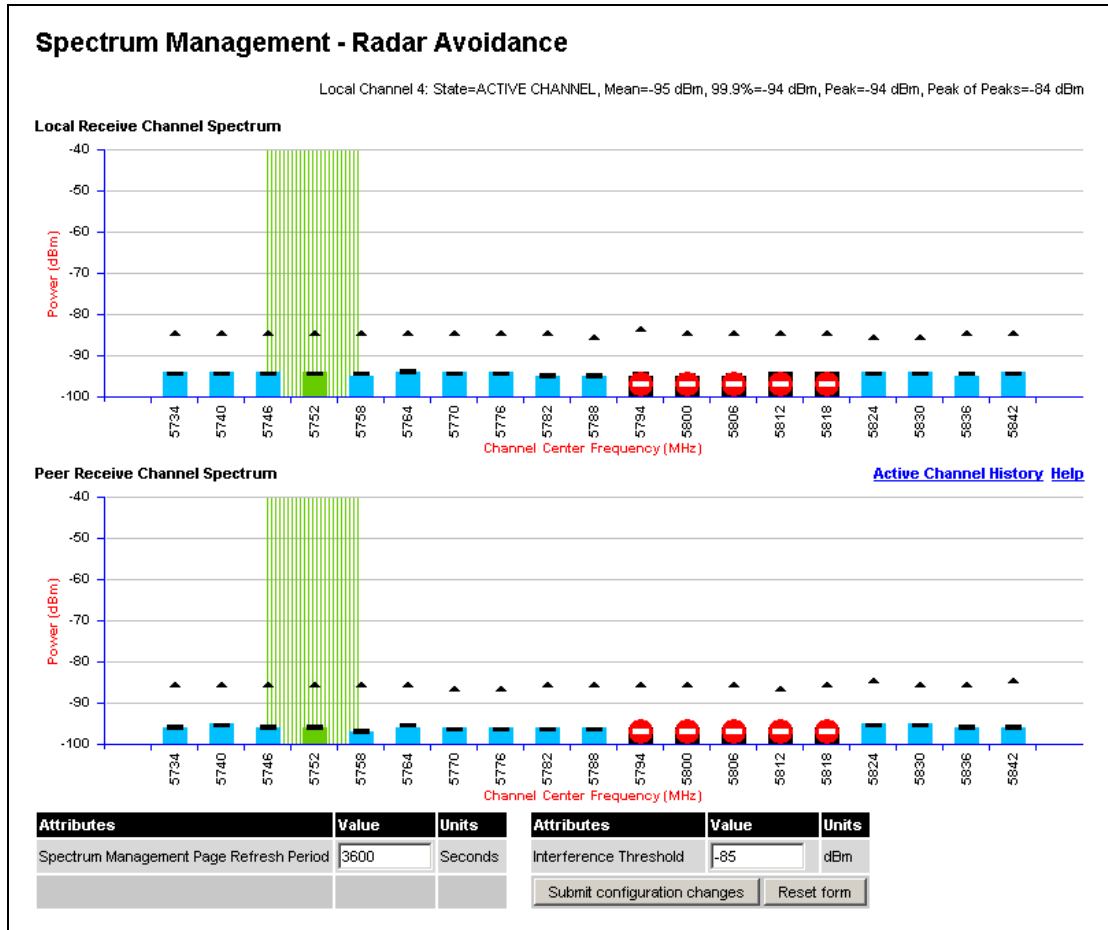
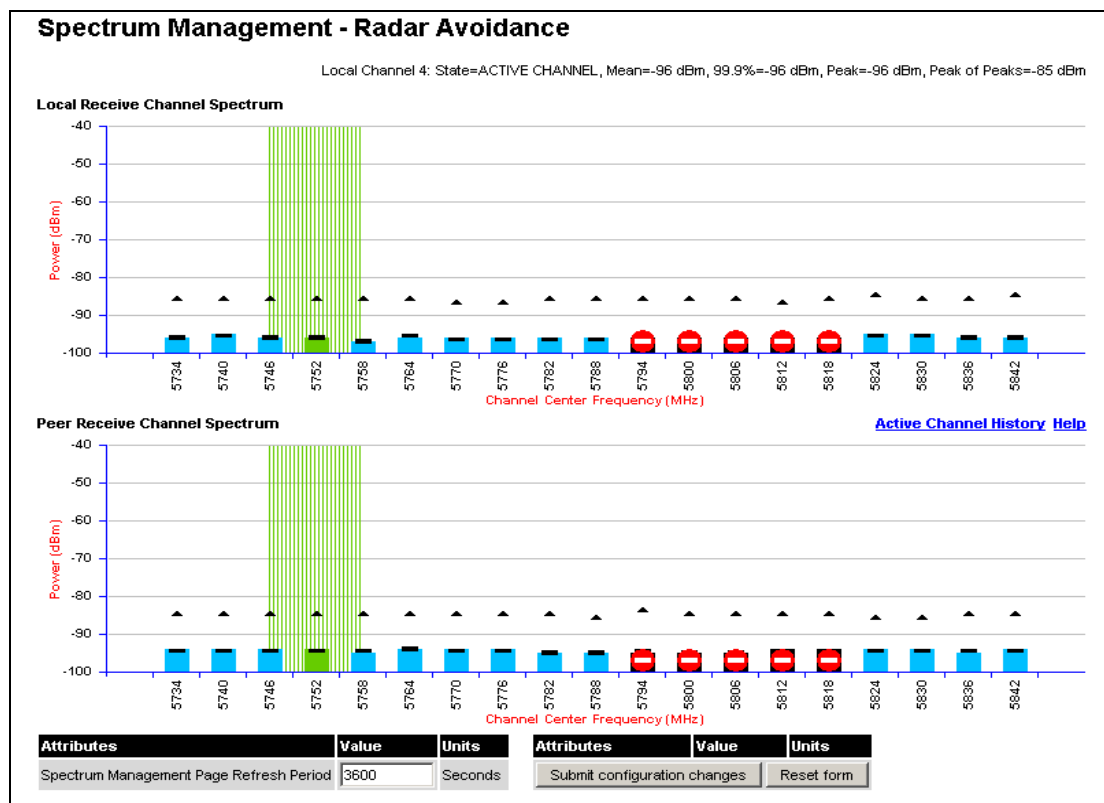

Figure 62 - Spectrum Management Master Screen with Operational Restrictions
Figure 63 - Spectrum Management Slave Screen with Operational Restrictions
- The words "Radar Avoidance" are appended to the "Spectrum Management" title at the top of the screen. See Figure 62 and Figure 63.
- The only controls available to the master are the Interference Threshold attribute. This has no affect on the operation of the wireless link and will only affect the generation of the channel spectrum graphics. See Figure 62.
- A channels marked with a 'no entry' symbol with their associated statistics colored black are the prohibited channels. See Figure 62 and Figure 63. These channels are never used to host the wireless link, but interference measurements are still taken so that adjacent channel biases can be calculated correctly and so the user can see if other equipment is in use.